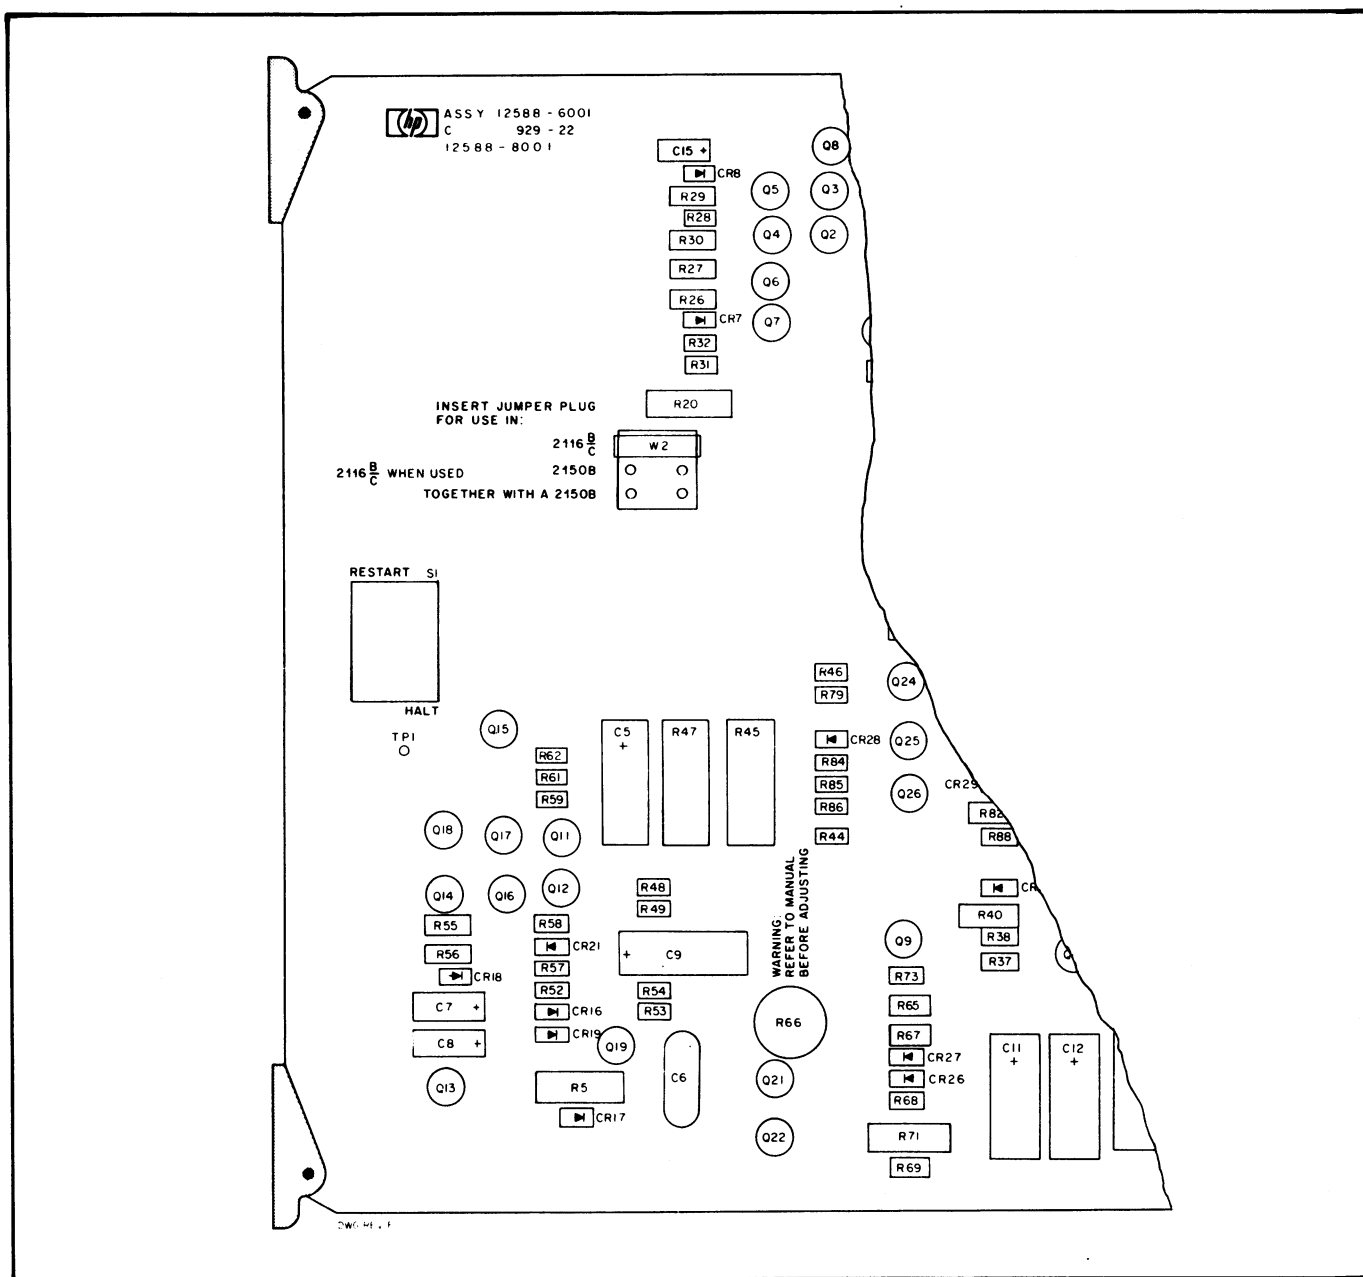

Figure US-1. Parts Location Corrections to Figure 5-3.
- 8 Page 5-5/5-6, figure 5-3. Add signal mnemonic $\overline{IR15}$ at pin 4 of the logic diagram. (This signal is used by the HP 2116C Computer at pin 4 and by the HP 2116B Computer at pin 9.) Make the corrections illustrated in figure US-1 to the parts location diagram.